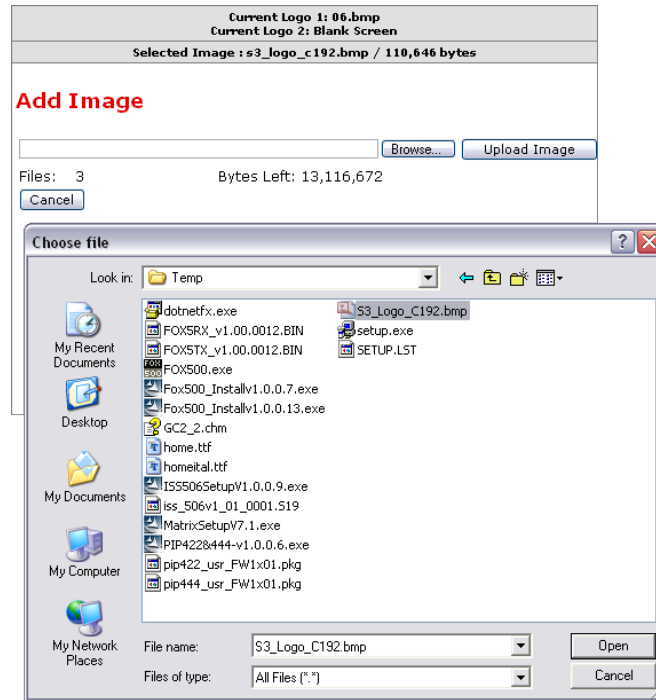

Figure 6-15 — Add Image field
1. Click the *Add* button. The center of the page becomes the Add Image field (figure 6-15).